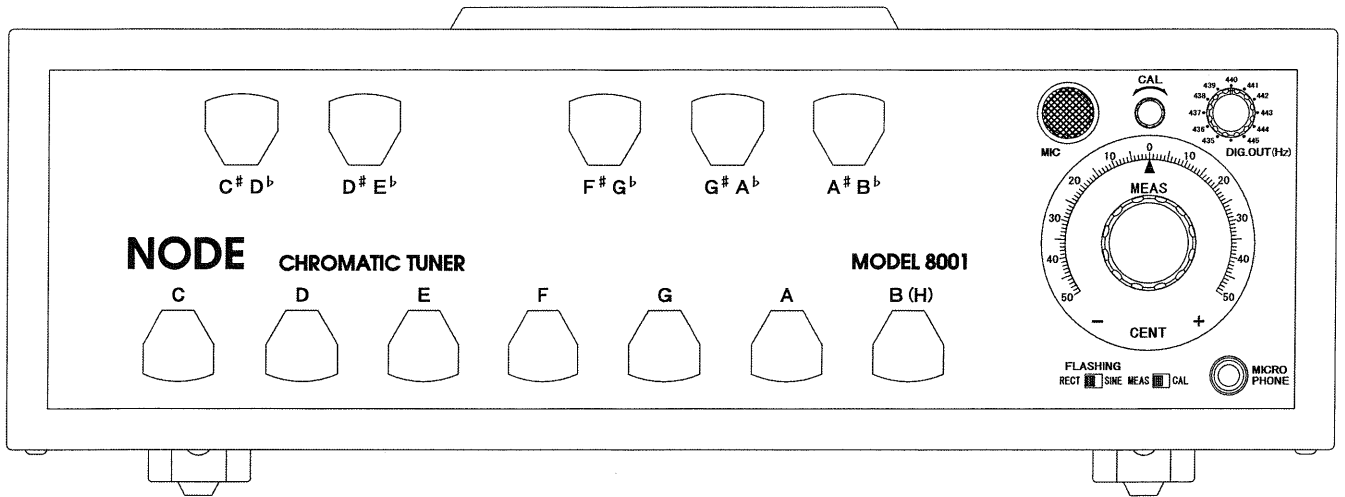

Figure 1
1) Front view/Figure 1, 2-----	P5
4) Calibration (1)/(2) and operation-----	P8
Insert the DC plug of the accessory AC adapter into the connector on the rear side of the main body (Figure 1-(8)). Connect the power cable to the power source and turn the power switch (Figure 1-(9)) ON.